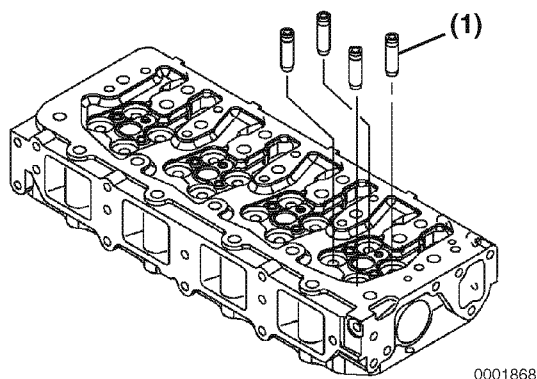

Figure 6-65
2. Immediately after removing the valve guides from the freezer, insert the valve guides (Figure 6-65, (1)) in their proper positions.